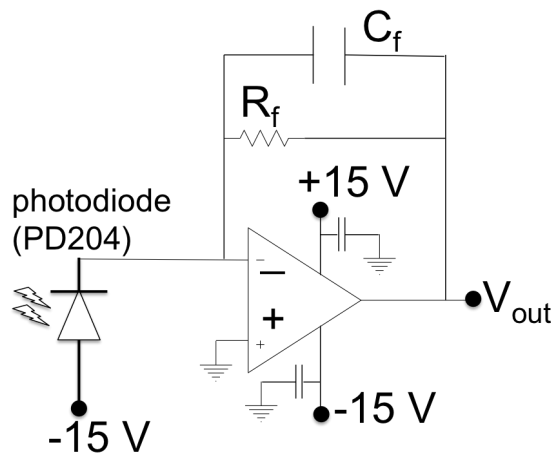

Figure 6: Photodetector circuit.
In an ordinary inverting amplifier the input voltage is applied to a resistor, and the amplifier generates an output voltage in response to the current that flows through the input resistor to the virtual ground at the negative op-amp input. A current-to-voltage amplifier (Fig. 6) is an inverting amplifier with the input current  $I_{in}$  supplied by the photodiode and applied to the inverting op-amp input. Since no current flows into the op-amp input, the output voltage must be  $V_{out} = -I_{in}R_f$ . The ideal (Golden Rules result) low-frequency gain of a current-to-voltage amplifier is
Question 2	<p>Trans-impedance Amplifier</p> <ol style="list-style-type: none"> <li>For the current-to-voltage amplifier in Fig. 6, choose a value for the feedback resistor <math>R_F</math> so that an incident white-light intensity <math>N</math> of <math>1.0 \text{ mW/cm}^2</math> produces an output voltage of 10 V.</li> <li>The small feedback capacitor <math>C_F</math> is used to suppress spontaneous oscillations. The trans-impedance gain of the amplifier at any particular frequency is <math>-Z_F</math>, where <math>Z_F</math> is the effective impedance of the parallel <math>R_F C_F</math> circuit. The gain rolls off at high frequencies with a bandwidth of <math>f_B = 1/(2\pi R_F C_F)</math>, just like any low-pass filter. The bandwidth will suffer if <math>C_F</math> is too large. What is the bandwidth <math>f_B</math> if <math>C_F = 10 \text{ pF}</math>?</li> <li>What are the dc values of the voltages at the + and – inputs and at the output of the op-amp for zero light on the photodiode? Consider the ideal situation where the diode allows zero current when there is no light hitting it. (In the full model, <math>\sim 10 \text{ nA}</math> of dark current flows through the diode even with no light on it.)</li> <li>What would the voltages be if the photodiode leads were accidentally reversed to make it forward biased? Hint: In this case the diodes acts like a short circuit with a 0.6 V drop across it.</li> </ol>
Step 2	<p>Room light photometer</p> <ol style="list-style-type: none"> <li>Reconfigure your voltage amplifier to the trans-impedance amplifier circuit shown in Fig. 6. Pay attention to the direction of the photodiode. You can use your DMM set to the “diode setting” to determine which side of the diodes is the cathode.</li> <li>Measure the average intensity of light from the fluorescent lamps in the lab from the output of your photometer circuit. How does your result compare with your Lab prep estimate? Keep in mind that the estimate you made of the light intensity was very rough, and also note that the data sheet only gives a “typical” value of the sensitivity of the photodiode. How could you refine your model to more accurately represent your system or your physical system to more accurately represent your model? List two possible refinements and complete at least one. Explain why you think this refinement could allow you to get better model-measurement agreement. Report on what you did, your new measurements/model predictions, and if you were successful in getting better agreement.</li> </ol>